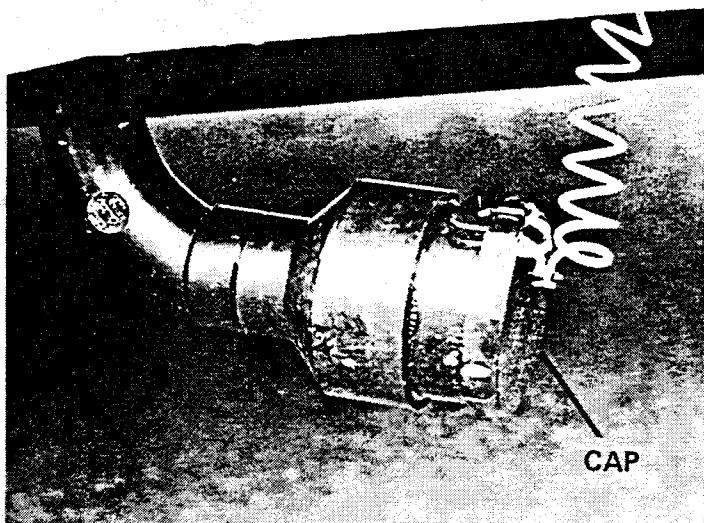

FIG. 13
**GRAY WATER (STANDARD 16' & 17' CADET TRAVEL TRAILERS)** — Remove cap from exterior drain fixture (FIG. 13). Attach a hose adaptor to the drain fixture. An adaptor may be purchased from your Coachmen Dealer. Attach a water hose to the adaptor and campground septic service. If a septic service is not available, place end of hose in a bucket. Empty the bucket into a permanent sewer drain. DO NOT drain water onto the ground. Besides spoiling the natural beauty of the countryside, you may be breaking a local or state ordinance.